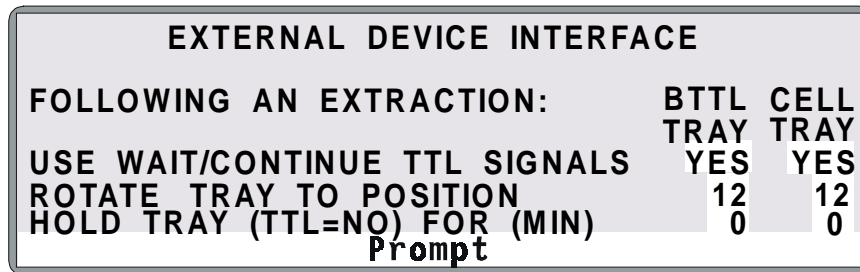

Figure 3-6. External Device Interface Screen: TTL Mode
1. To specify the operating conditions for the TTL mode, press **Menu** to display the **MENU OF SCREENS** and press **9** to display the **EXTERNAL DEVICE INTERFACE** screen (see Figure 3-6).